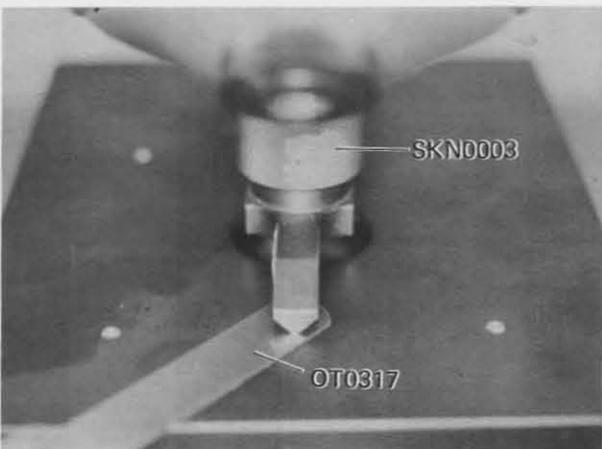

Fig. 9-2
- b) Proceed as described in 9-2-1-c) above. (See Fig. 9-2)